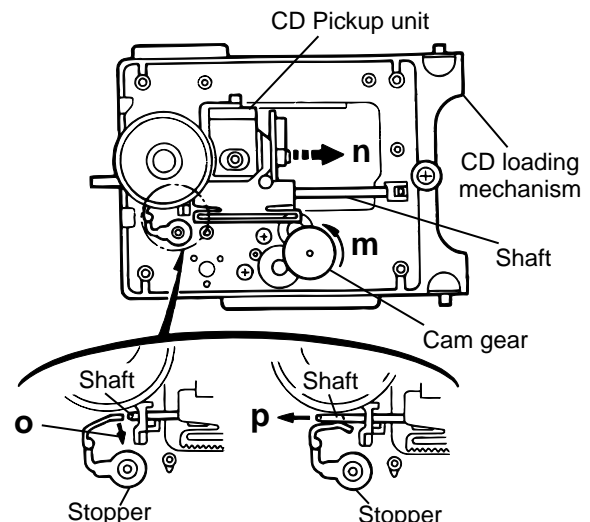

Fig.13
**Removing the CD pickup unit (See Fig.13)**